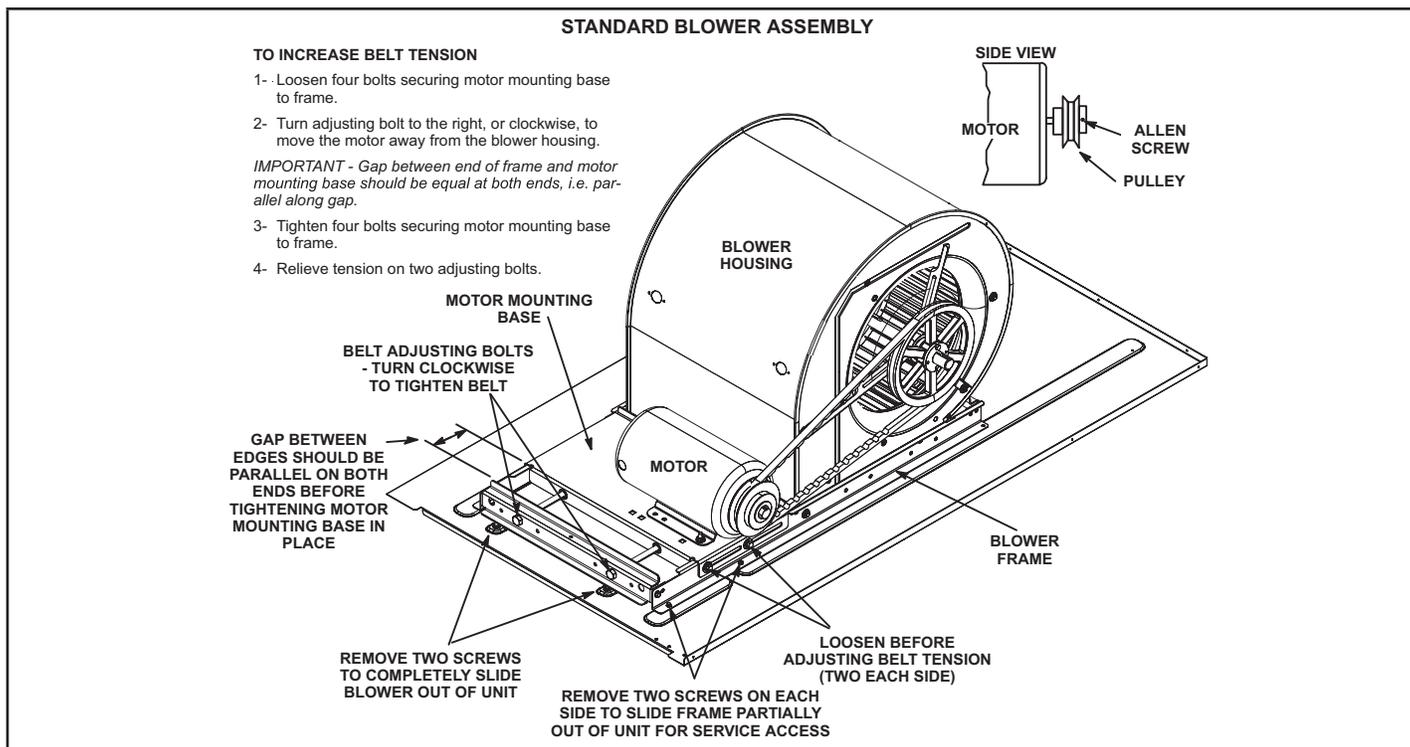

FIGURE 7
- 4 - The blower RPM can be adjusted at the motor pulley. Loosen Allen screw and turn adjustable pulley clockwise to increase CFM. Turn counterclockwise to decrease CFM. See FIGURE 7. Do not exceed minimum and maximum number of pulley turns as shown in TABLE 1.
- 1 - Loosen four bolts securing motor base to mounting frame. See FIGURE 7.